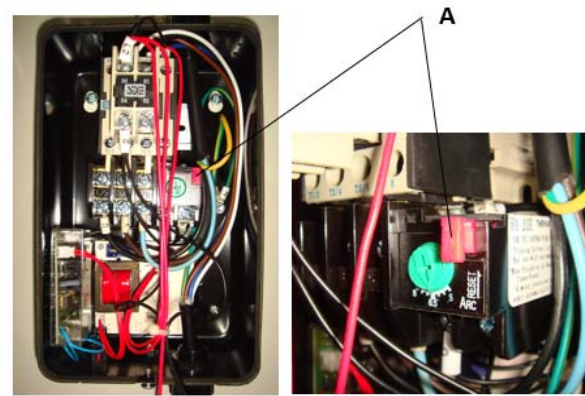

Figure 17
2. Press reset button (A, Figure 17) to reset the overload relay